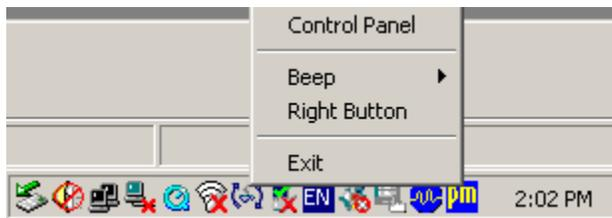

Figure 4-8: PenMount Monitor Popup Menu
Step 4: Click the icon. A pop up menu appears. See **Figure 4-8**.
Step 5: Click Control Panel in the pop up menu shown in **Figure 4-8**.